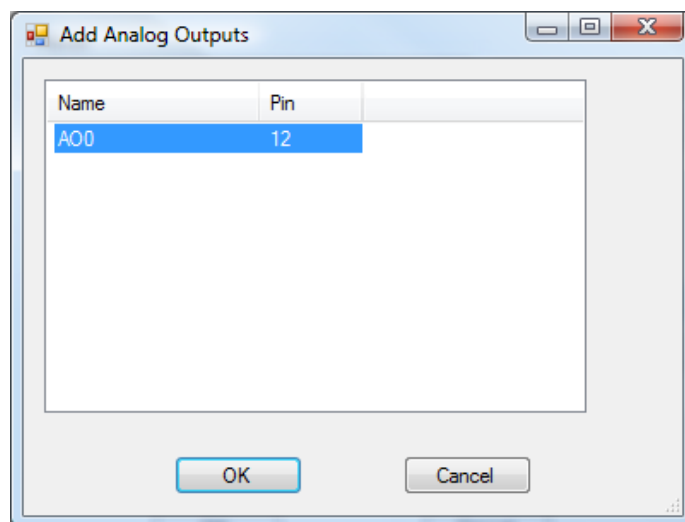

Figure 2-8- Add Analog Outputs Dialog
4. Click the **ADD OUTPUTS** button next to the Outputs pane. The *Add Analog Outputs* dialog will open. Select (highlight) the A00 shown in the dialog and click **OK**. Refer to Figure 2-8.